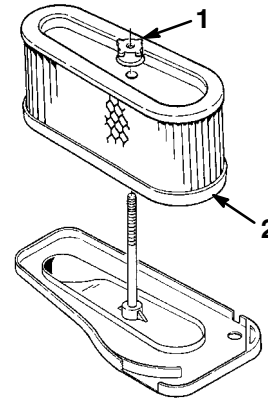

Figure 31
5. Unscrew the rubber nut and remove the paper element (Fig. 31).
2. Slide the air cleaner assembly onto the long rod. Screw the rubber nut finger-tight against the air cleaner (Fig. 31).